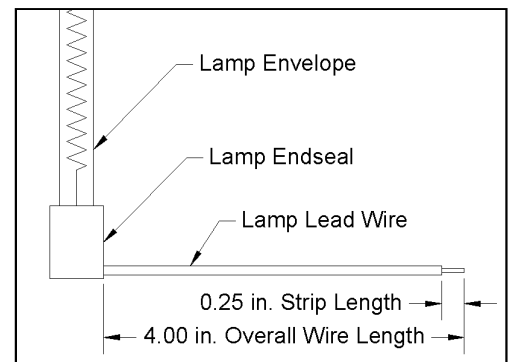

Figure 5-3
6. Both lead wires of the lamp need to be trimmed prior to installation into the heater. Figure 5-3 details the proper lengths to which the lead should be trimmed and stripped.